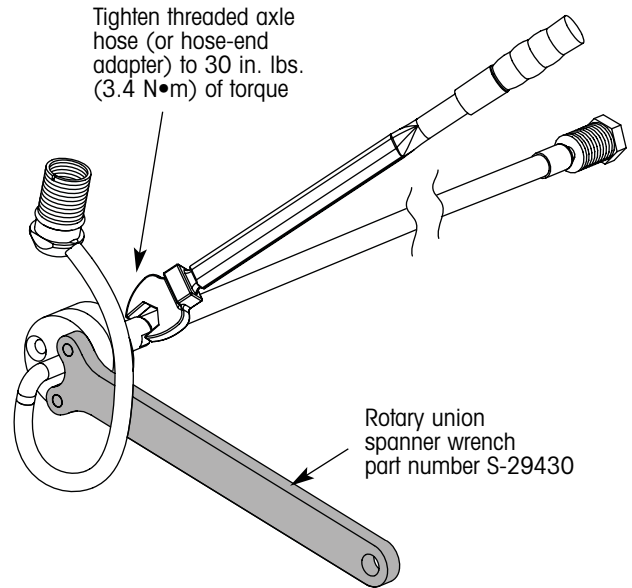

Figure 5. Rotary union spanner wrench use
2. Using the rotary union spanner wrench (figure 5), screw the replacement rotary union into the threaded axle hose (or hose-end adapter) and tighten to 30 in. lbs. (3.4 N•m) of torque.